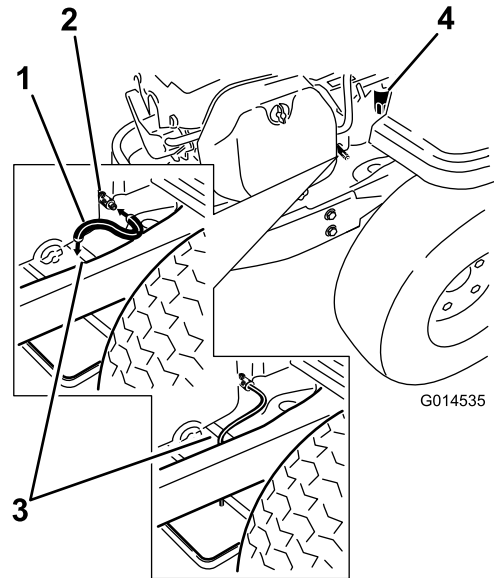

Figure 31
4. Clean the area around the drain valve and on the machine frame. Locate the oil drain hose and slide it over the drain valve (Figure 31).
5. Place the opposite end of the oil drain hose over the end of the frame (Figure 31).